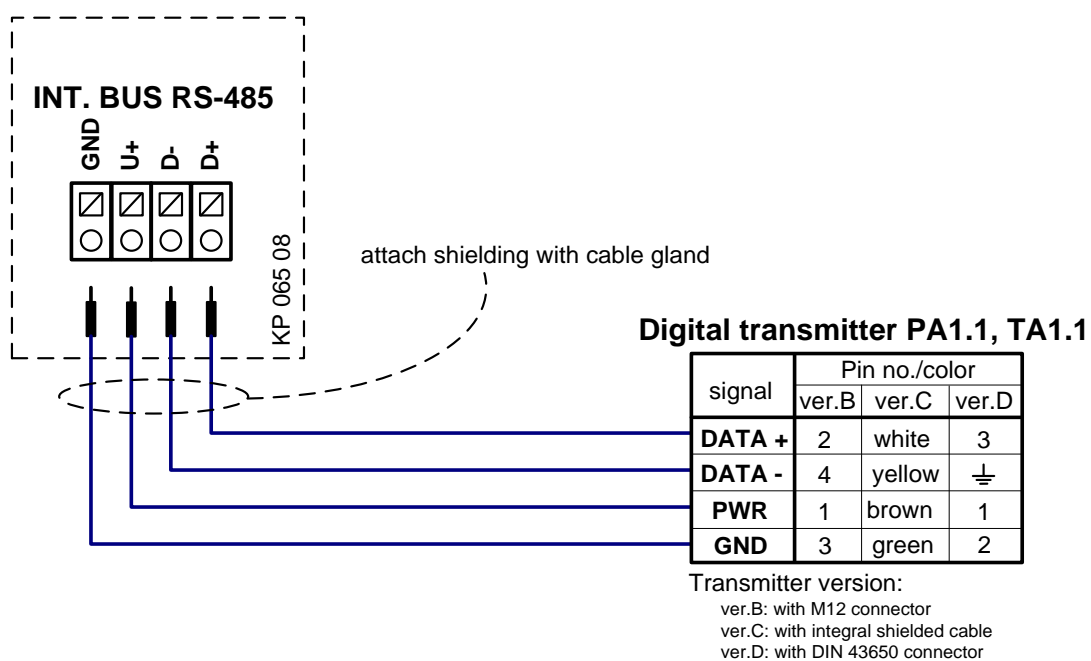

Fig. 63 Connecting of a digital sensor with the EDT expansion module (EDT port)
6. Connect digital sensor. Pull the cable of the sensor through the cable bushing. Attach the shielding of the cable with the body of the bushing. The electrical scheme of the connection is shown on Fig. 63.